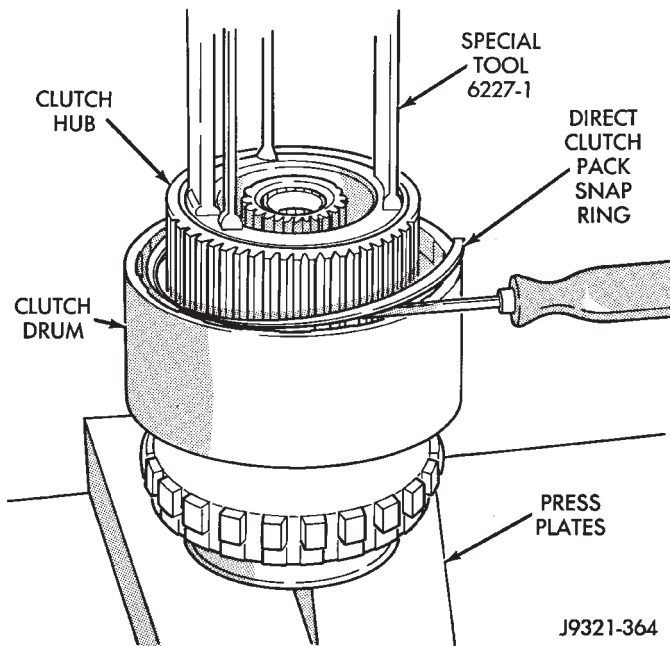

Fig. 208 Direct Clutch Pack Snap Ring Removal
(4) Remove direct clutch pack snap ring (Fig. 208).